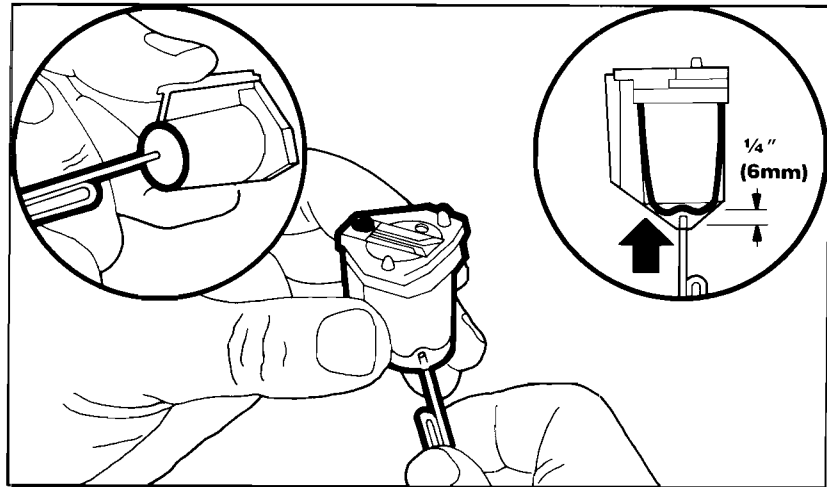

Figure 4-2. Priming the Print Cartridge
2. Form a paper clip as shown in Figure 4-2.